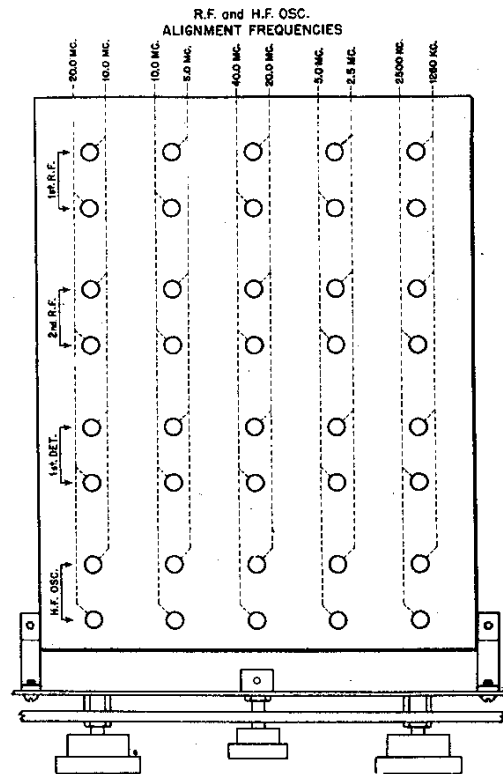

Fig. 13. ALIGNMENT CHART. Shows location of screwdriver adjustments and corresponding test frequencies.
a. *Signal Generator* - This should be an accurately calibrated instrument producing amplitude-modulated radio-frequency signals. In addition to 465 kc (the I.F.), the frequency range required of the signal generator depends on the tuning range of the receiver to be aligned. The R-F alignment frequencies required for the Series 400-SX Super-Pro are shown in Fig. 13. The second harmonic can generally be used when the fundamental frequency is not available. For example: a signal generator covering all frequencies from 465 kc to 20 mc could be used to check the highest frequency band by using the second harmonic of 20 mc to provide the 40 mc called for in Fig. 13. The signal generator should have an output of approximately 100 microvolts and an output impedance of approximately 100 ohms for best results when aligning the R-F and H-F-Oscillator circuits. For I-F alignment these values are not critical. The frequency calibration of the signal generator is extremely important if the Receiver dial calibration is to be correct.
(1) To correct dial calibration, refer to alignment chart (Fig. 13) for location of H-F oscillator adjustments as well as signal frequencies at which settings should be made. If the 2.5-5.0 mc band is to be corrected, the signal generator may be set accurately to 2.5 mc and its second harmonic (if strong enough) used for the 5.0 mc end of the band. The output of the signal generator should be unmodulated and SIGNAL-MOD-CW switch on Receiver turned to CW. Set BEAT OSCILLATOR at 0, AUDIO GAIN at 10, AVC-MANUAL on MANUAL, BAND WIDTH at 16. Disconnect output meter and use earphones or loudspeaker to make necessary adjustments by "zero beat" method. Connect signal generator to antenna terminals for this test.
(2) Tune in second harmonic at 5.0 mc end of dial to zero beat. Notice approximate dial error. Turn main dial slightly toward 5.0 mc calibration line until beat note rises to a high pitch. Do not turn dial far enough to
raise beat so high it cannot be heard. With alignment screwdriver adjust trimmer capacitor marked HF OSC 5.0 mc (Fig. 13) until beat is again zero. Turn main dial still farther toward 5.0 mc line and make a further adjustment of trimmer capacitor to return to zero beat. Repeat this process as often as necessary to bring dial to exactly 5.0 mc. (The main dial could be set at once on exactly 5.0 mc and trimmer turned enough at one time to produce zero beat, but the step-by-step method is recommended.) Now tune in 2.5 mc fundamental at low-frequency end of main dial and correct the calibration step-by-step as before, using inductance trimming adjustment HF OSC 2.5 mc (Fig. 13). When second harmonic is again tuned in at other end of dial, it will be found that inductance adjustment at 2.5 mc has changed correction previously made at 5.0 mc. This is normal. Go back and forth several times from 2.5 to 5.0 mc in order to bring both ends of dial scale into exact agreement with the signal frequency. CAUTION: DURING THIS ADJUSTMENT BE VERY CAREFUL TO ADJUST THE SENSITIVITY CONTROL TO AVOID OVERLOADING.
(2) Starting with 2.5-5.0 mc band, set main dial at 5.0 mc (BAND SPREAD at 100) and adjust frequency of signal generator for peak deflection of output meter. Then check setting of trimmer marked 1st DET 5.0 mc (Fig. 13). Repeat this procedure on trimmers designated as 2nd RF and 1st RF in same row. If readjustments on one of these settings greatly increases output meter reading, alter SENSITIVITY slightly to reduce reading to half-scale. After each adjustment check tuning of Receiver to make sure test signal is still accurately tuned. BAND SPREAD may be used as a vernier for this purpose. CAUTION: THIS TUNING CHECK IS EXTREMELY IMPORTANT AT HIGH END OF 10-20 MC AND 20-40 MC BANDS WHERE THERE IS SOME SLIGHT INTERACTION BETWEEN 1ST DET AND H-F OSC CIRCUITS. After checking the three trimmers at high end of this band, turn main dial to 2.5 mc and retune signal generator to suit. Then check the three inductance adjuster settings marked 2.5 mc (Fig. 13) in the same row. Since adjustments at one end of a band also affect the other end of the band (as described under H-F OSC alignment), repeat above procedure until no further improvement can be secured. The number of repetitions necessary depends on how much mistuning existed initially. Other bands may be checked in the same manner.
(3) For best possible efficiency with a particular antenna arrangement, the 1st RF circuits may be adjusted with the antenna connected. This can be done by loosely coupling output of signal generator to antenna